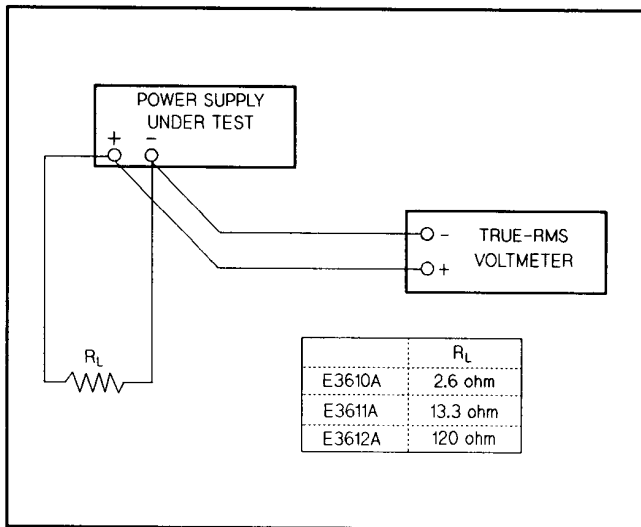

Figure A-4. RMS Measurement Test Setup
- Connect the test equipment as shown in Figure A-4.